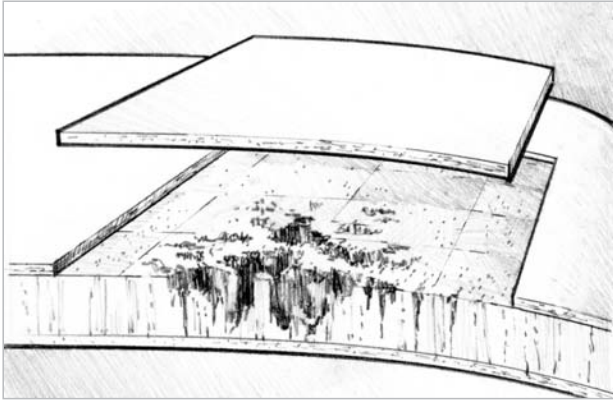

Figure 5-5 Cut through the skin only, outside of the area of delamination. Pry the skin carefully away from the core material.
2. Remove the skin (*Figure 5-5*). The skin should separate easily in areas where the core is damaged or wet. In areas where the skin is well bonded to the core, use a chisel or thin blade between the skin and core to pry the skin away from the core material. Be careful not to bend the skin too much or gouge the core. Applying heat to the joint with a heat gun will also help to soften the skin core bond. Be careful not to overheat the skin.